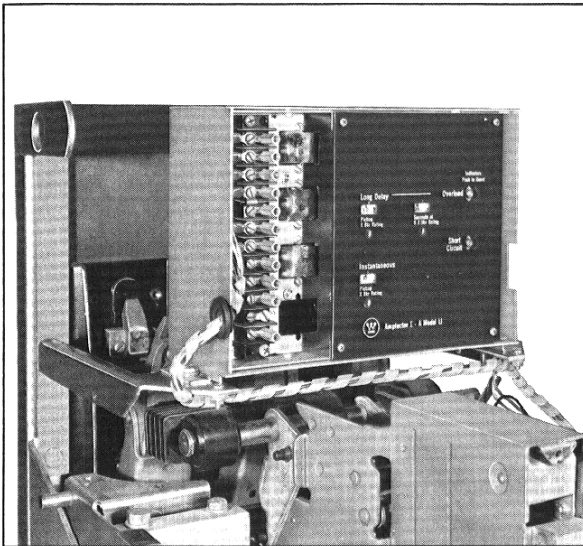

Fig. 12 Amptector Mounted with Wiring Harness
- The Amptector is now mounted between the brackets using .25-20 x .5 fil. hd. screw, washers and the .25-20 threaded hole in the bracket, Fig. 12.
3. Slide the grommet over the front end of harness, connect colored wires to the Ampdetector per wiring diagram, then place grommet into split hole on the left side of Ampdetector. Attach the harness to the front of the Ampdetector using the nylon clamps and .164-32 x .50 mach. screws, nuts and washers, see Fig. 12.